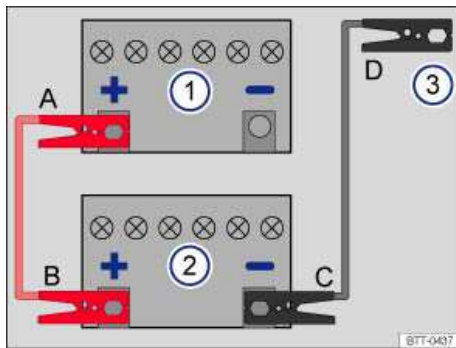

Fig. 183 Diagram for attaching the jumper cables: Dead battery 1 and booster battery 2.
⇒ fig. 183 A – B – C – D.
3. Attach one end of the *red* jumper cable to the **positive terminal (+)** of the dead battery: (1) ⇒ .
4. Attach the other end of the *red* jumper cable to the **positive terminal (+)** of the good battery (booster battery): (2).
5. Attach one end of the *black* jumper cable to the negative jump-start terminal ⇒ Jump-start terminal, or if that is not available, to the **negative terminal (-)** of the battery in the vehicle providing assistance (2) ⇒ fig. 183.
6. Attach the other end of the *black* jumper cable (3) to the negative jump-start terminal ⇒ Jump-start terminal, or if that is not available, **a bare metal part of the vehicle with the dead battery**. This part should be connected directly to the electric motor block. You may also attach the cable to the electric motor block itself or to the towing eye installed on the front of the vehicle ⇒ page 408, Towing. Attach the clamp to a point that is as far away as possible from the dead battery (1) ⇒ .